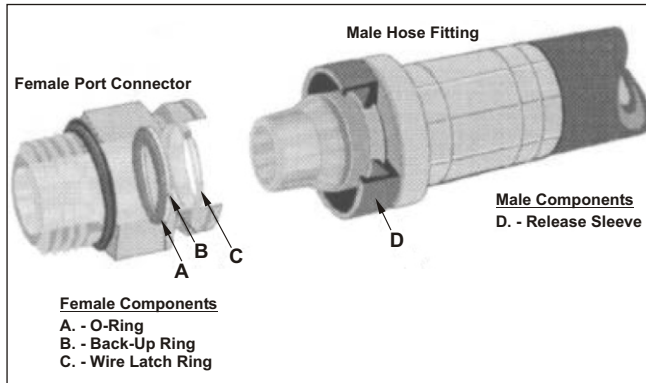
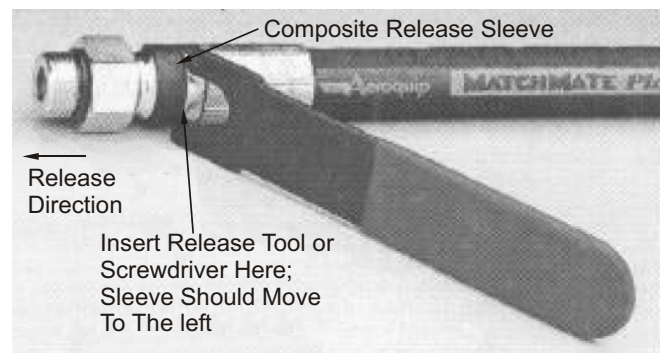

Figure 1. - STC Components
Figure 2. - STC Assembly
3. To help avoid release sleeve tearing create a release tool insertion gap by moving the sleeve in the release direction. (see Figure 2). This can be done either by hand or by using a single prong of the release tool.
4. Insert the release tool behind the release sleeve **D** (see Figure 1) and pull the hose assembly out from the mating STC connector (leaving the release tool inserted will aid disassembly). **Do not pry on the fitting with the release tool.** (See Figure 2).
3. Check the Wire Latch Ring **C** (see Figures 1 and 3) to ensure that it is in the proper position in the female STC connector prior to installation or reconnection.